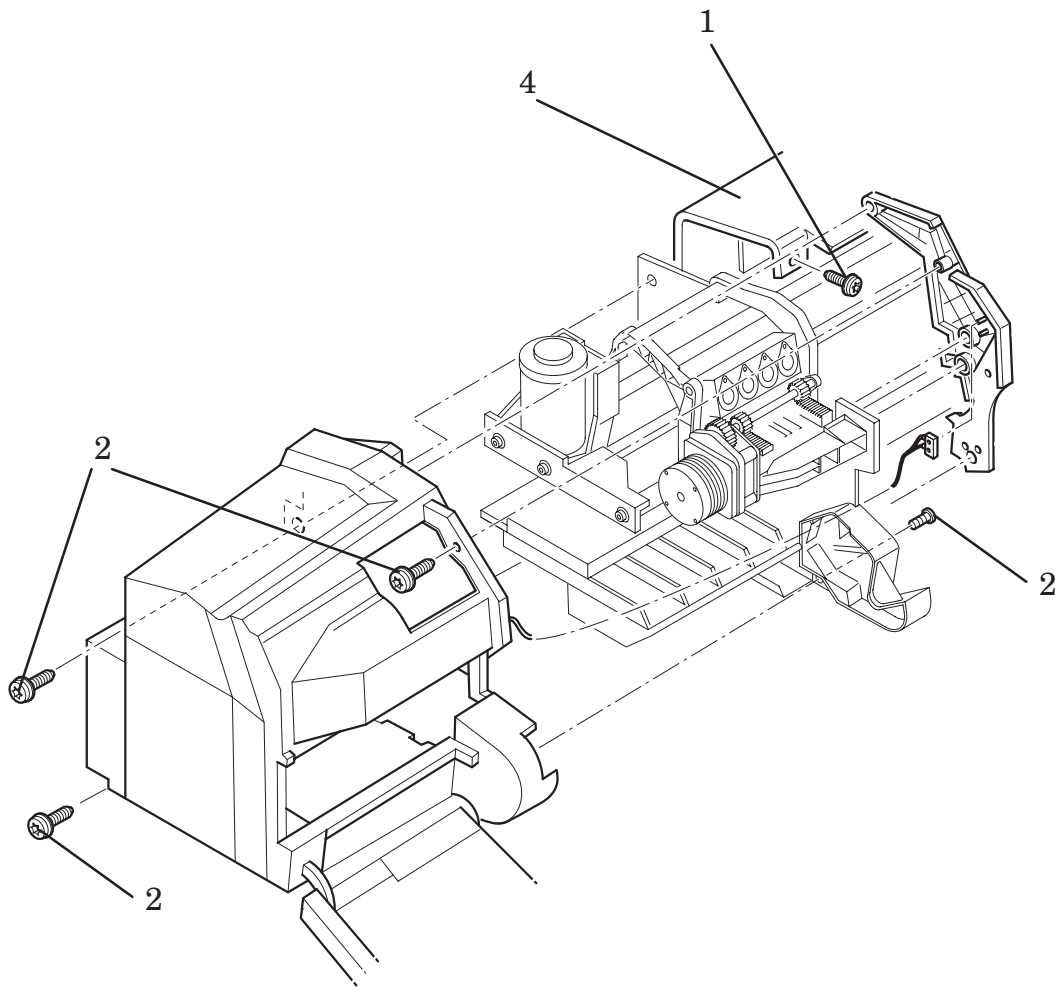

Figure 3: Top Cover
Refer to figures 3 and 4 ► page 8-16 and 8-17
1. Remove two T-15 screws (item 1 on figures 3 & 4) securing the top cover to the left and right hand covers.
2. **Loosen** the screws (item 2 on figure 3) on the left hand cover.
6. Remove the top cover (item 4 on figure 3).
1. Install the top cover (item 4 on figure 3) making sure that the two small wire clamps on the centronics port are positioned vertically.
5. Tighten the screws on the left hand cover (item 2 on figure 3).
6. Using two T-15 screws, secure the rear cover to the left and right hand covers (item 1 on figures 3 & 4).